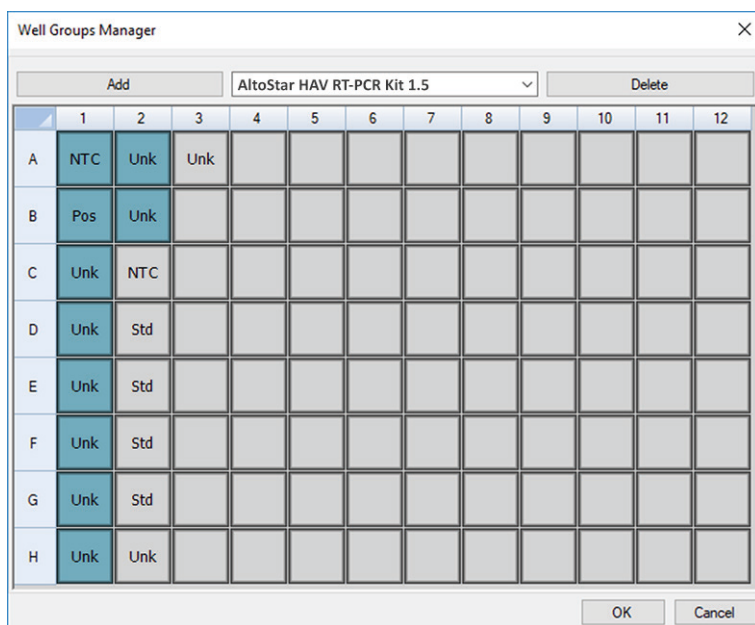

Figure 3: Well Groups Manager dialog
- In the Plate Editor dialog click **Well Groups...** in the toolbar. The Well Groups Manager dialog is displayed (see figure 3).
- Select all wells in the PCR plate area that belong to the first assay (see figure 3). The wells belonging to an individual assay can be identified in the Plate Editor dialog by the entry in the **Biological Set** field.